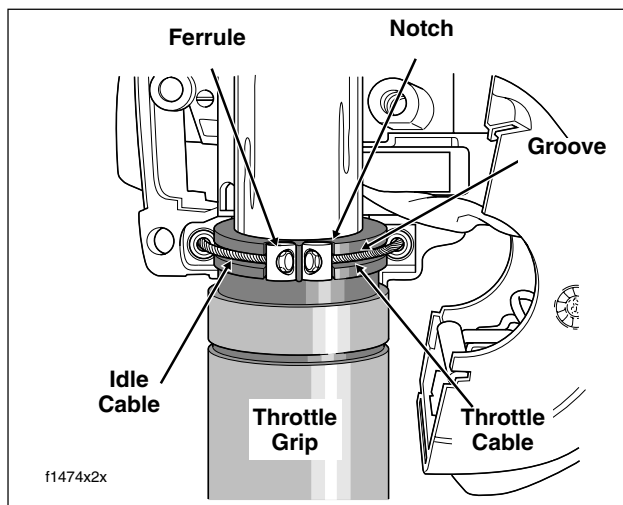

Figure 1-19. Remove Throttle/Idle Cables
4. Remove the brass ferrules from the notches on the inboard side of the throttle control grip. Remove the ferrules from the cable end fittings. See Figure 1-19.
11. Position the lower switch housing beneath the throttle control grip. Install the brass ferrules onto the cables so that the end fittings seat in the ferrule recess. Seat the ferrules in their respective notches on the throttle control grip. Verify that the cables are captured in the grooves molded into the grip. See Figure 1-19.